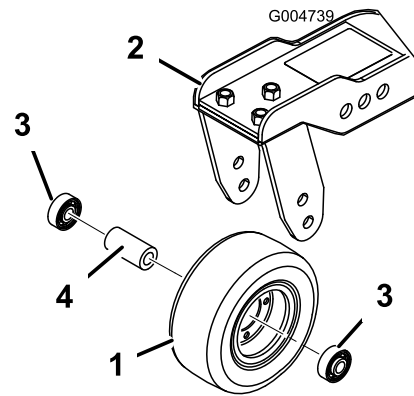
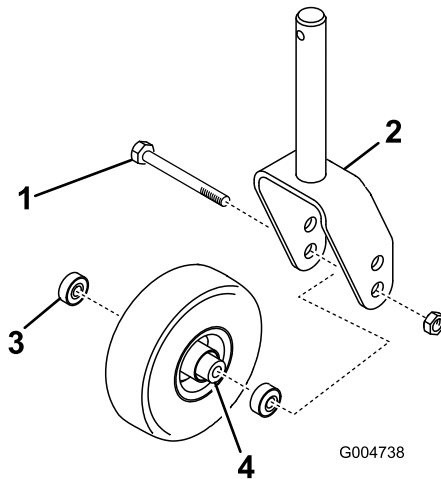

Figure 83
Figure 82
2. Remove the bearing from the wheel hub and allow the bearing spacer to fall out (Figure 82 and Figure 83).
1. Remove the locknut from the bolt holding the caster-wheel assembly between the caster fork (Figure 82) or the caster-pivot arm (Figure 83).